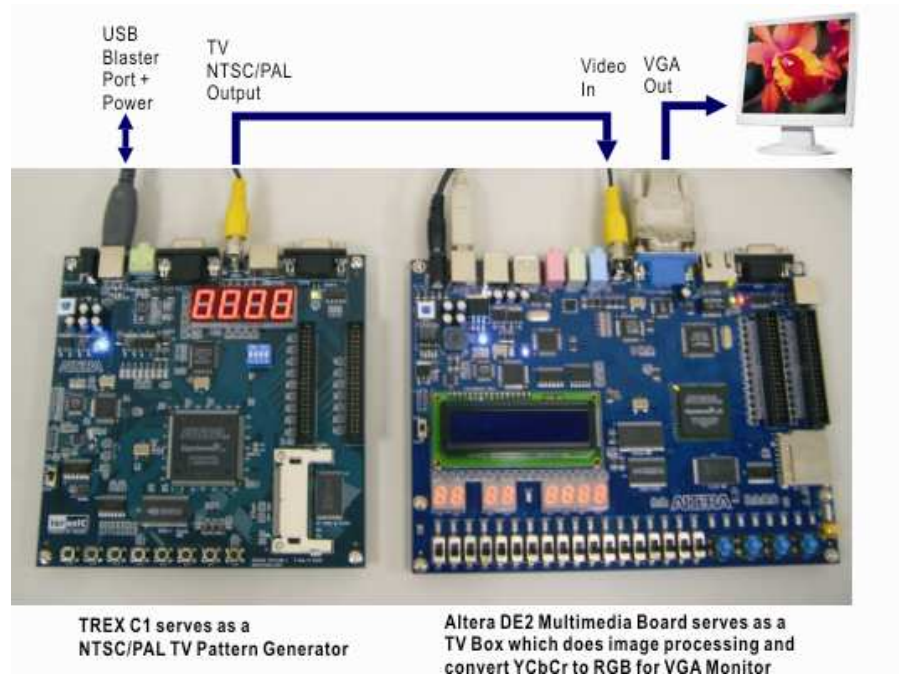

Figure 8.2 Another setup of the lab which uses TREX C1 with Altera DE2 board - TREX C1 serves as a TV pattern generator and DE2 board serves as a TV Box.
- ✓ Figure 8.2 shows another setup in our lab where we use TREX C1 board to generate the TV color patterns to feed into the latest Altera DE2 multimedia board. The Altera DE2 board then convert the YCbCr (4:2:2) format to RGB using Cyclone II FPGA and display the result on a VGA Monitor. This lab setup is excellent for video/multimedia labs because:
- (1) TREX C1 board serves as a cheap NTSC/PAL dual system TV Color/Signal Pattern Generator instead of buying expensive NTSC/PAL TV Pattern generator.
- (2) Altera DE2 board serves as a video processing/compression box
- (3) Altera DE2 board can also serves as a simple TV Box as in this example, which converts TV input to VGA output to enable users to observe the results on a easy-to-get VGA monitor in the lab.